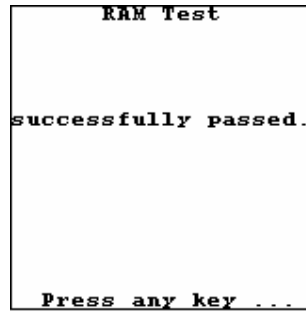

Fig. 59
- RAM test – tests embedded Random Access Memory. The only sufficient test result is as given by Fig. 59: